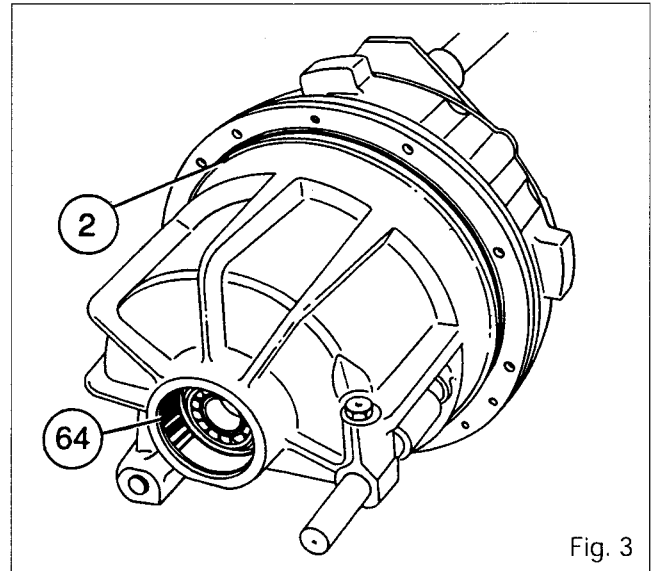

Fig. 3
8. Discard the O-rings **(2)** (for gearbox with spring-loaded clutch) and **(3)**. Recover the cup **(64)** and the locating pin **(4)** (Fig. 3 and 4).
9. On the input unit, check that the cup **(64)** and O-ring **(2)** (if fitted) are in position (Fig. 3).